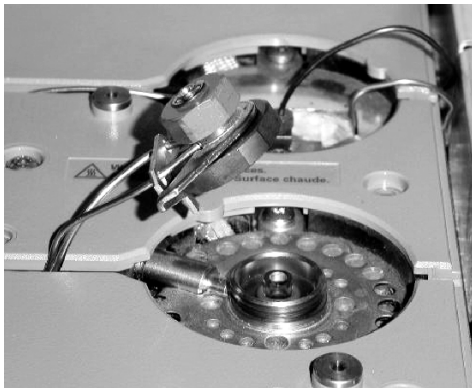

Figure 1 Preparing the inlet
- 4 Unscrew the inlet nut as shown in Figure 1. Removing the inlet cover allows for easier access.